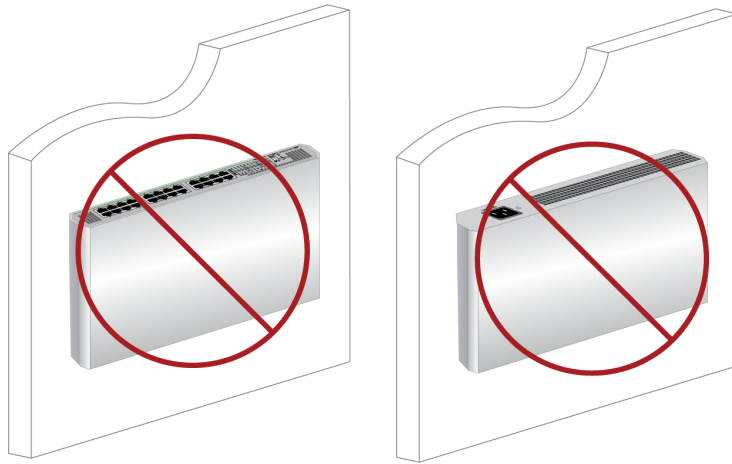

Figure 17. Incorrect Wall Installation
- ❑ Mounting the front panel facing up or down on the wall is incorrect for the AT-GS910/5, AT-GS910/8, AT-GS910/8E, AT-GS910/16, and AT-GS910/24 switches. See Figure 17 as examples.